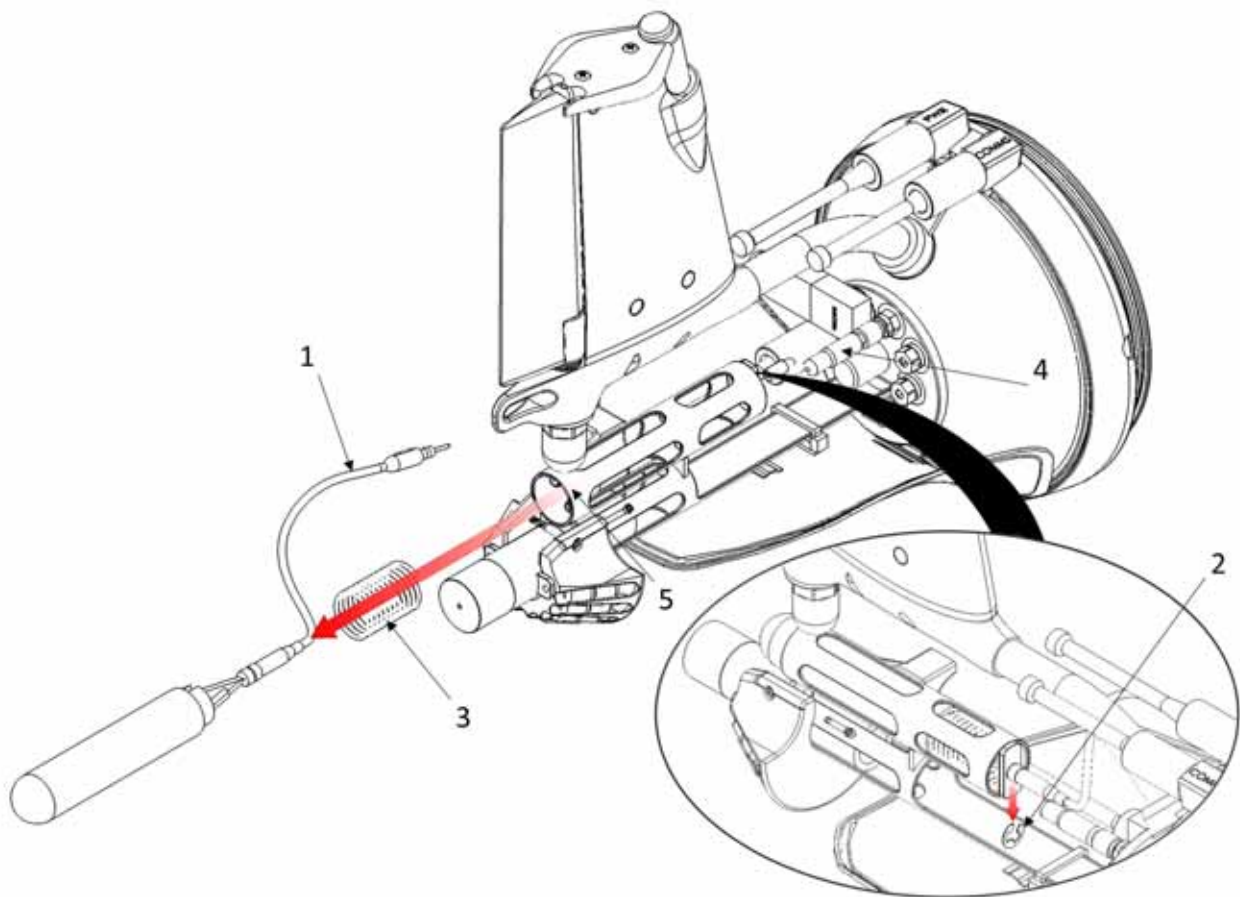

Figure 2-27 Weight release assembly.
1. Disconnect the weight release assembly (Figure 2-27, Item 1) from the weight release assembly connector (Figure 2-27, Item 4).
2. Remove the E-ring (Figure 2-27, Item 2) that secures the weight release assembly (Figure 2-27, Item 1) within the aft channel. It may be necessary to relieve pressure on the E-ring by depressing the ejection weight before the E-ring can be removed.
3. Pull the weight release assembly (Figure 2-27, Item 1) out of the aft channel. (No tools are required.)
4. Make sure the ejection weight spring (Figure 2-27, Item 3) remains in the aft channel.
1. Insert the ejection weight spring (Figure 2-27, Item 3) into the aft channel (Figure 2-27, Item 5).
2. Install the weight release assembly (Figure 2-27, Item 1) through the aft channel (Figure 2-27, Item 5).
3. Install the E-ring (Figure 2-27, Item 2) that secures the weight release assembly (Figure 2-27, Item 1) within the aft channel.
4. Connect the weight release assembly (Figure 2-27, Item 1) to the weight release assembly connector (Figure 2-27, Item 4).